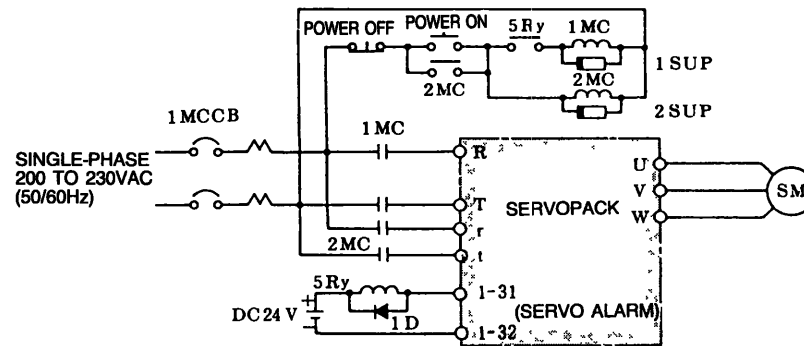
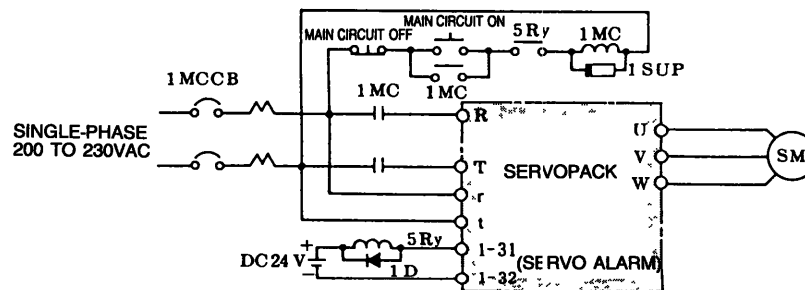

Fig 6.1 Connection Example for Power ON/OFF (200VAC)
Fig 6.2 Connection Example for Main Circuit Power ON/OFF (200VAC)
Arrange the sequence so that the power is simultaneously supplied to the main circuit (R,T) and the control circuit (r,t), or supplied to the control circuit first, then to the main circuit (Figs. 6.1 and 6.2).
Arrange the sequence so that the power is simultaneously cut (including momentary power failure) (Fig. 6.1), or the power to the main circuit is cut first, then the control circuit (Fig. 6.2). The order is the reverse of the power ON sequence.
Precautions for Connections in Fig. 6.1 are as follows.
- When power is supplied to the power ON/OFF sequence shown in Fig. 6.1, the normal signal is set (5Ry is turned ON) in the control circuit after a maximum delay of 2 seconds.
(for relatively rough speed setting as compared with Fig 6.2)